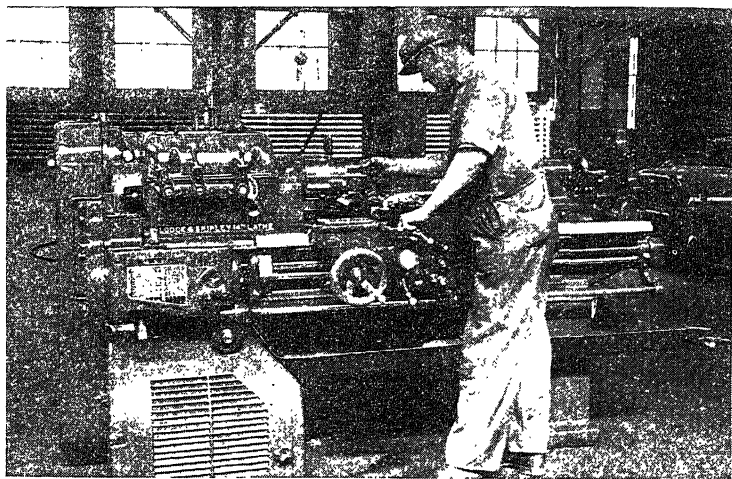

FIG. 2.—Turning in a 14-in. lathe. (Courtesy of Lodge & Shipley Machine Tool Company.)
*The Lathe.*—The lathe (Fig. 2) is a metal-turning machine tool in which the work, while revolving on a horizontal axis,